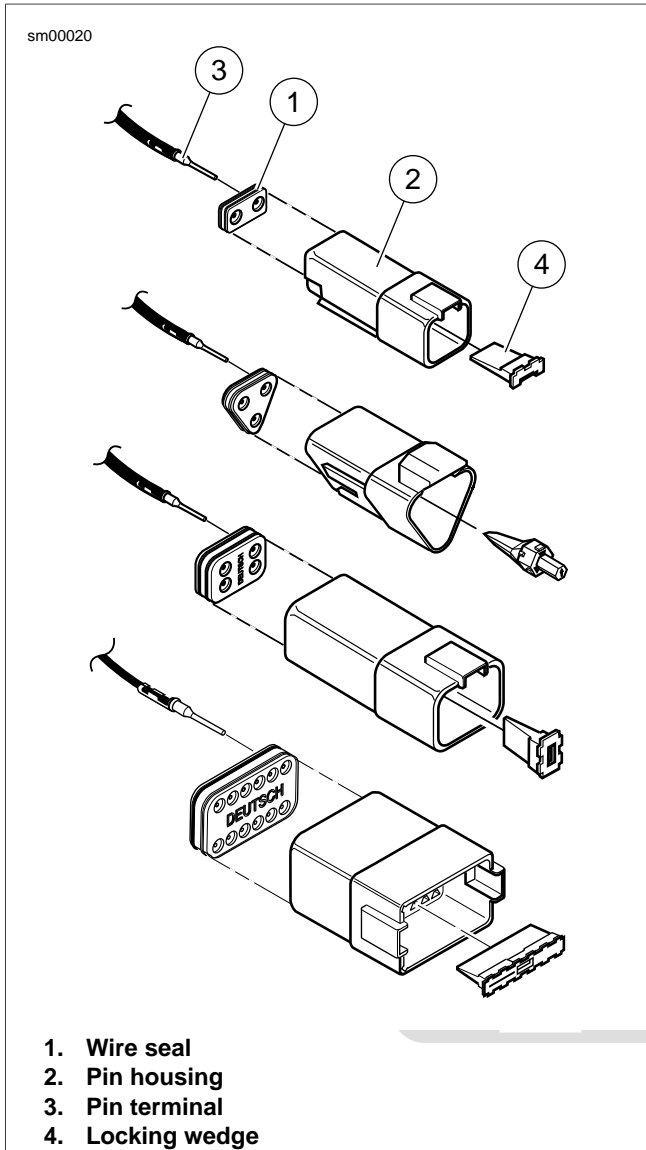

Figure A-17. Deutsch Connector: 2, 3, 4 and 12-Place Pin Housings
1. See Figure A-17. Fit wire seal (1) into back of pin housing (2).
2. Grasp wire lead approximately 1.0 in. (25.4 mm) behind the pin terminal (3). Gently push pin through holes in wire seal into its respective numbered chamber until it "clicks" in place.